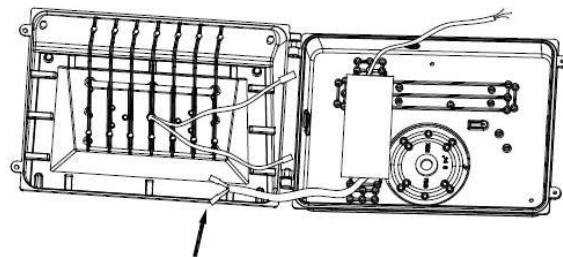

Figure 2
4. Open the fixture and disconnect the quick disconnects which connect the LED driver to the LED module. (Figure 2)